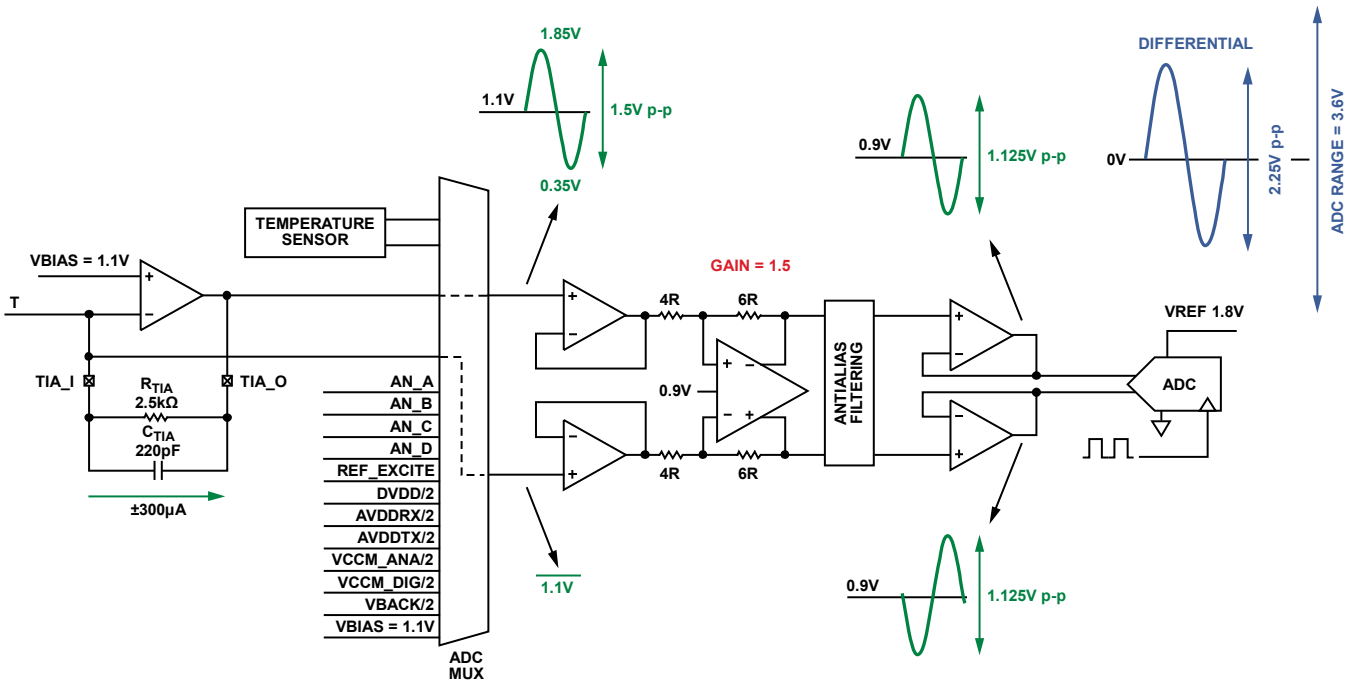

Figure 153. ADC Channel During Sensor Measurement
In Figure 153,
- Input Current Resolution =  $(3.6 \text{ V}/2^{16}) \times (1/1.5) \times (1/R_{TIA}) = 14.6 \text{ nA}$ , where  $R_{TIA} = 2.5 \text{ k}\Omega$ , as in the example in Figure 153.